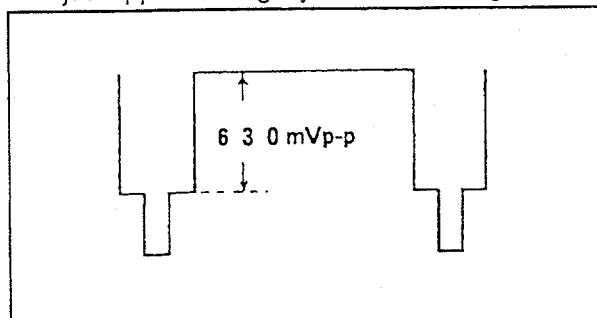

Figure F10.
3. Aim the camera to a plain white paper and adjust the iris so that the white level is 630mVp-p as shown in Figure F10.